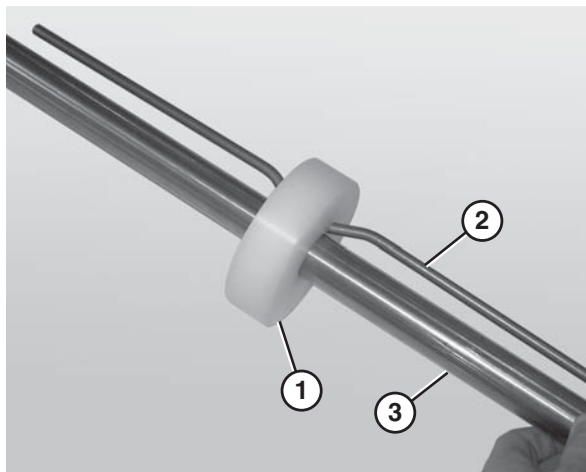

Figure 65
- Place the idler puck (**Figure 65, item 1**) at the center of the bent retaining bar (**Figure 65, item 2**).
- Slide the idler puck onto the idler shaft (**Figure 65, item 3**). Make sure to center the idler puck.